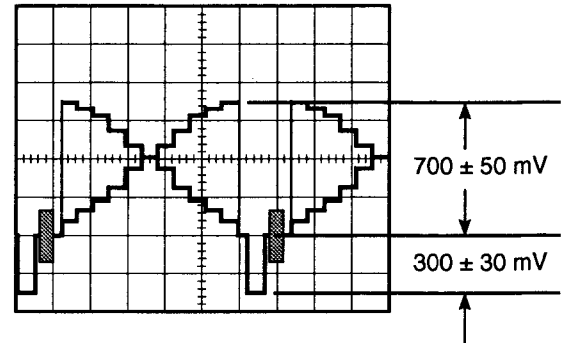

Fig. 5-20
- Adjust data with the **ARROW** keys so that Video signal level becomes 700 ± 50 mV as shown in Fig. 5-20.